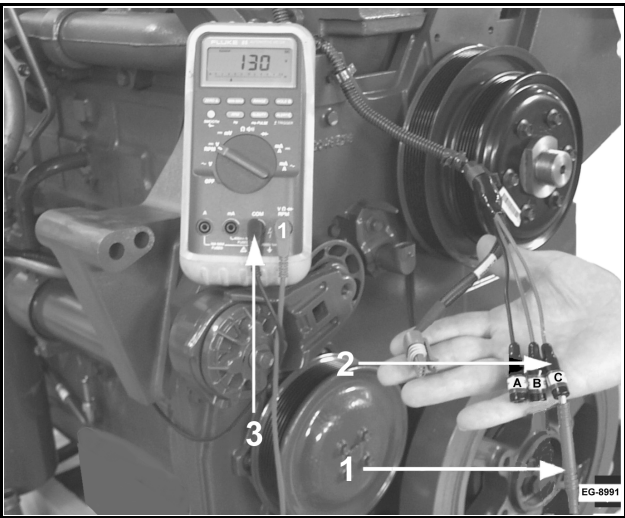

Figure 42 Measuring Cranking Speed at CMP Sensor
1. Connect Breakout Tee (ZTSE4486) between CMP sensor and CMP sensor harness connector (See Figure 42, page 78).
4. Crank engine for a minimum of 20 seconds and measure engine cranking rpm (Hz) at CMP signal green connector (C).